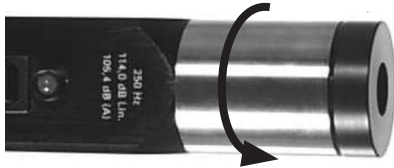

Fig. 4.1
1. Dismount the standard ½" coupler (Fig. 4.1).